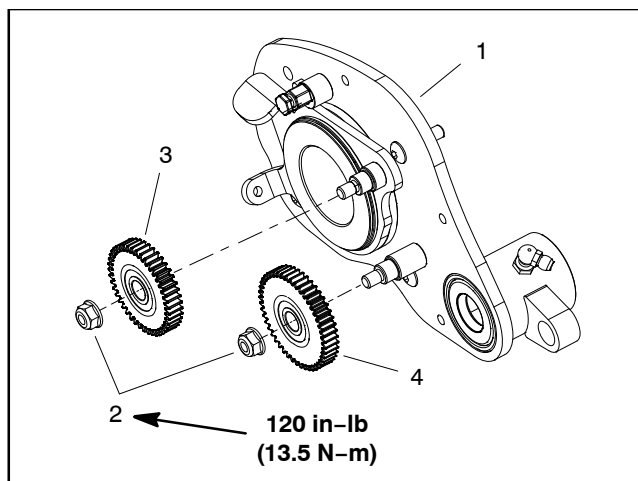

Figure 30
4. Install idler gears to drive plate assembly (Fig. 30). Torque flange nuts that secure idler gears **120 in-lb (13.5 N-m)**.
6. Fill groomer cover with approximately five (5) ounces (142 grams) of Mobil XHP221 grease (or equivalent). Install new gasket and then groomer cover assembly to RH drive plate (see Groomer Cover (Counter Rotating Groomer Drive) in this section).